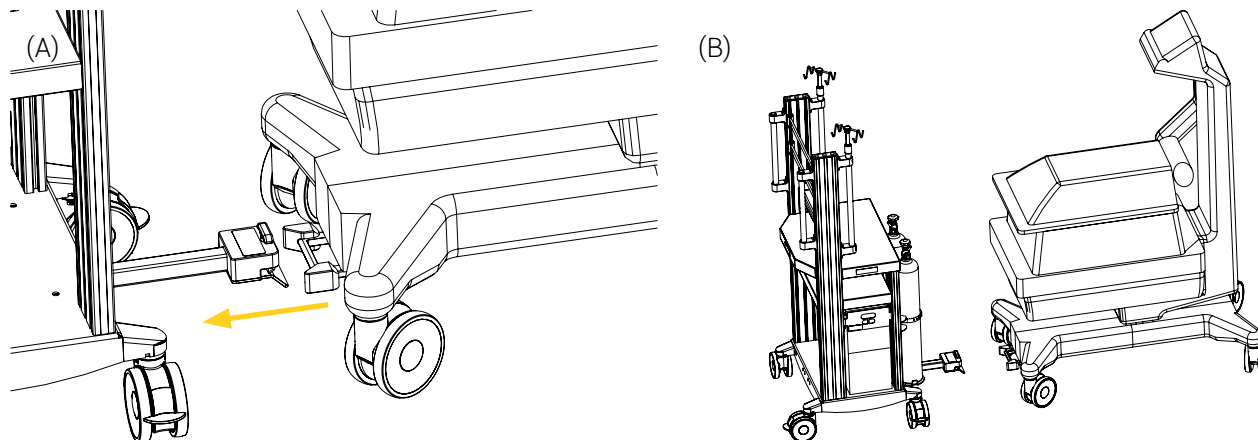

Figure 8 : Removal of the cart from the incubator
3. Push the cart away from the incubator until the THS coupling device is fully removed from the fold-up hitch locking mechanism, while simultaneously retaining the knob of the quick release mechanism of the fold-up hitch lifted (Figure 8).